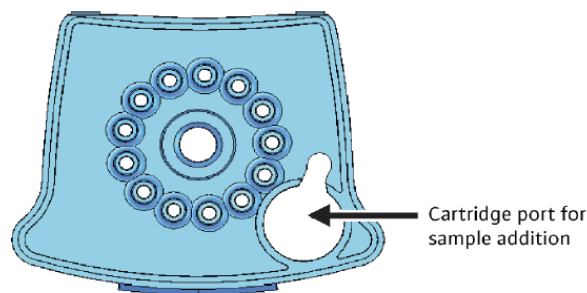

Figure 1. Xpert MTB/RIF cartridge (top view).
10. Transfer sample into the open port of the Xpert MTB/RIF cartridge (Fig. 1)